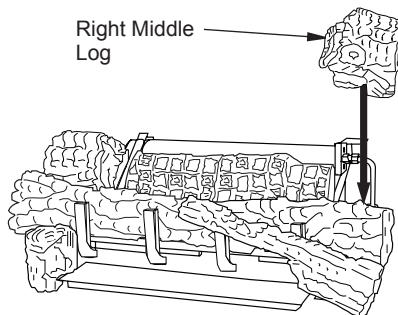

Figure 27 - Installing Right Middle Log
- The right middle log (18" D-067, 24" & 30" D-041) has a groove on the bottom to sit on the chassis and has to sit on the tab on the back of the right front. The right middle log should have a recess area that fits around the ramp log as shown in Figure 27.